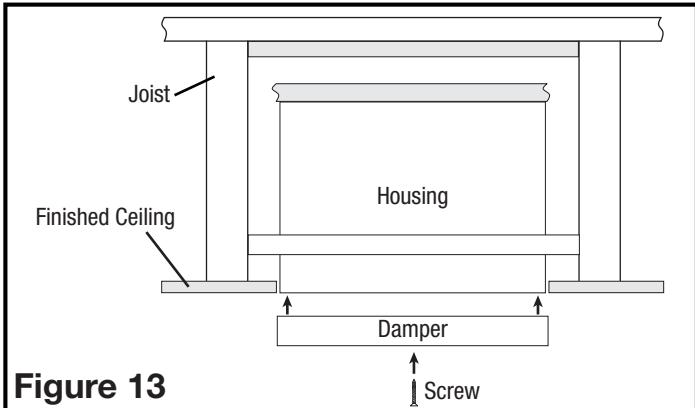

Figure 13
- INSTALLING THE CEILING DAMPER:** The ceiling damper supplied with the unit is designed to install only in Air King Model AKFH2 housings. Install the ceiling damper & ceiling damper frame into the opening of the fan housing. The ceiling damper frame is designed to fit on the outside of the housing and the ceiling damper will sit on the inside of the fan housing (**Figure 13**).
- Once positioned in place secure the ceiling damper frame to the fan housing using two of the supplied #6 x 1" screws. Carefully drive the screws through the two oblong slots on the ceiling damper frame into the screw retaining lances on each side of the fan housing. Complete this step slowly as you do not want to damage the lances on the housing (**Figure 13**).